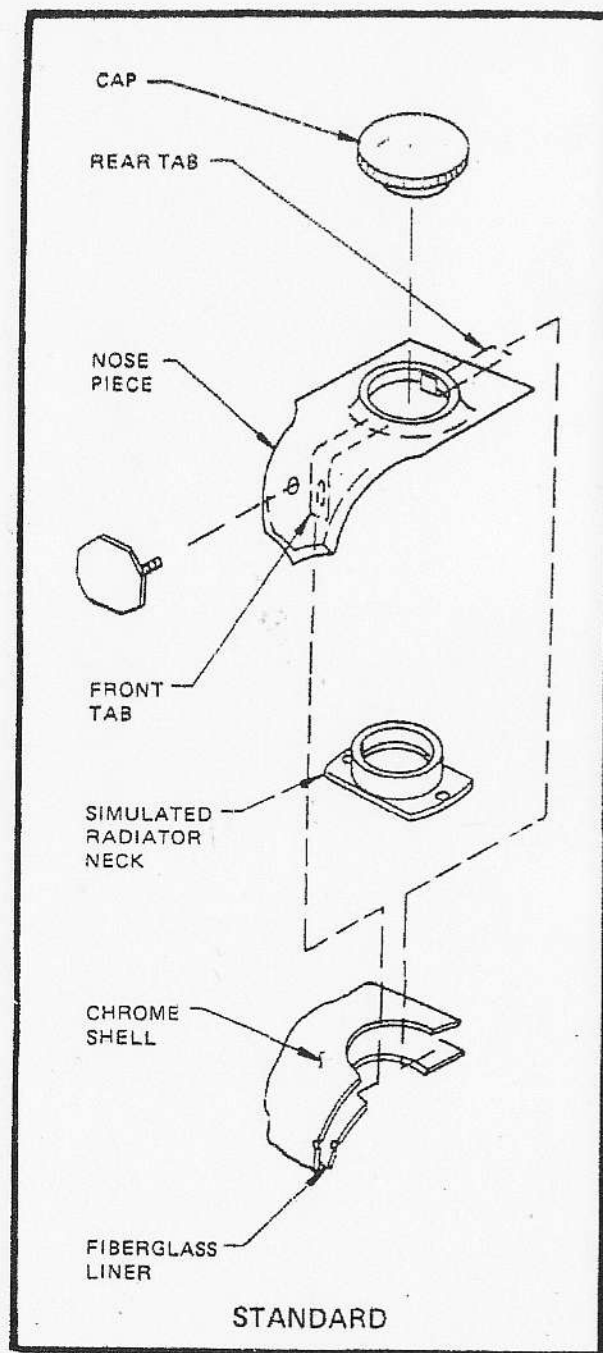

Figure 50
- ☐ Insert liner into assembled chrome shell. (Refer to Figure 50) . Working through the rectangular holes on each side of the chrome shell, scribe the outline into the fiberglass liner. Remove liner and cut out the rectangular holes in the fiberglass liner. Position one of the headlight support brackets into the rectangular slot of the fiberglass liner. When installed the tab should be angled straight out from the center line of the car, not from the shell. Mark the location of the screw holes. Drill 3/16" hole at the marked location. Insert 2 No. 10 x 1" screws into the liner from the outside. Slide the headlight support over the screws and bolt, using nuts, flat